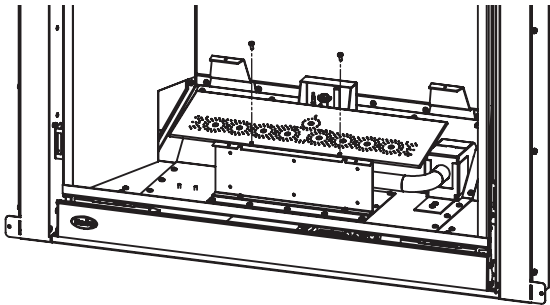

Figure 11. Removing Burner
**Step 3:** Unscrew the burner pan using a T20 screwdriver then rotate it clockwise and pull it out of the venturi box (Figure 11).